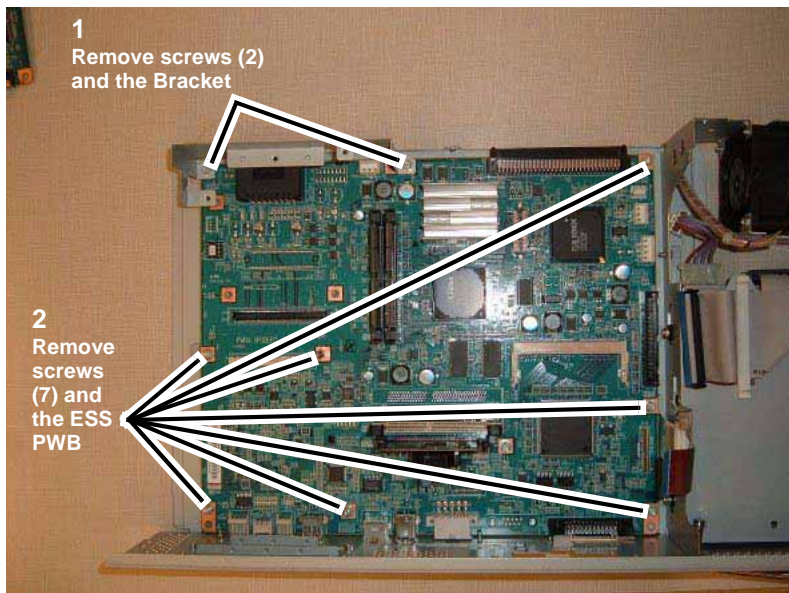

Figure 6 Removing the ESS PWB
7. Remove the ESS PWB (Figure 6).